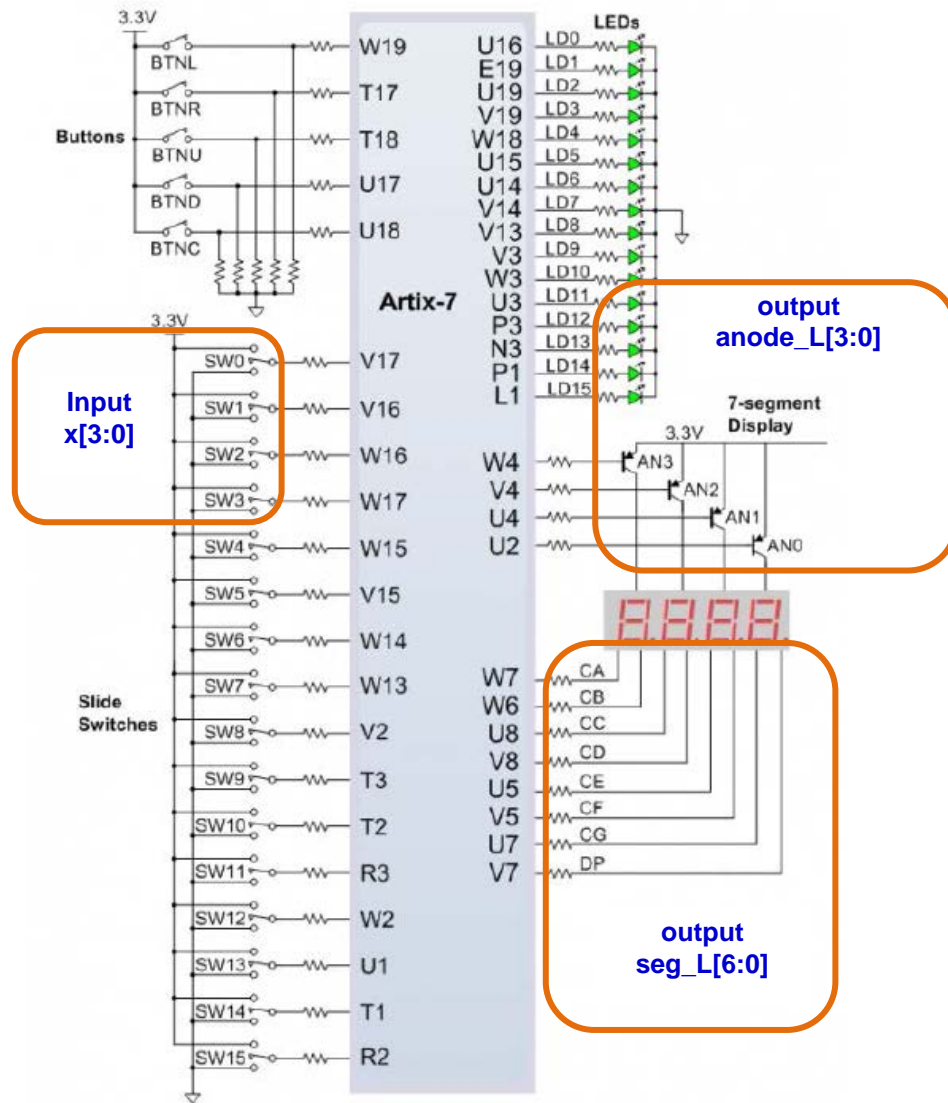
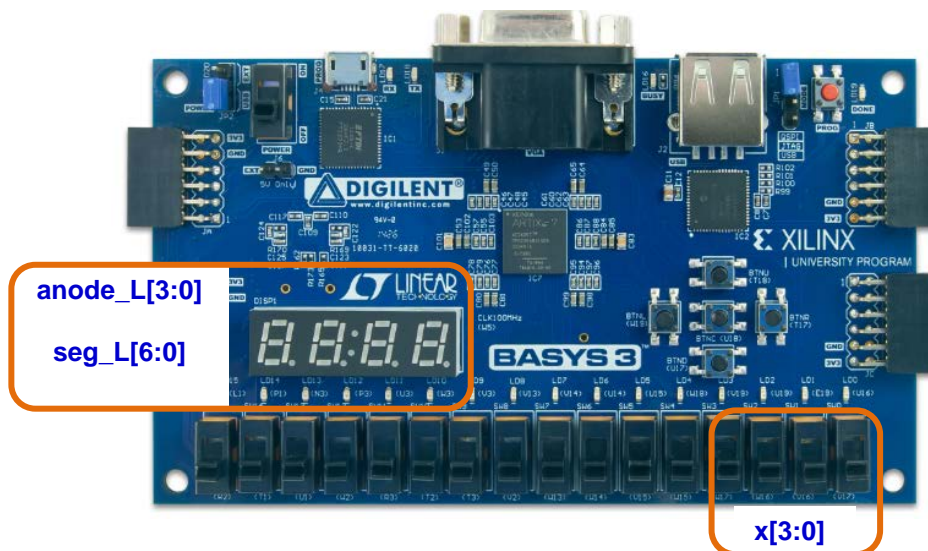

Figure 4: Basys3 basic input/output (I/O) schematic (source: Ref 8.4)
Figure 5: Basys3 board physical layout (source: Ref 8.4)
- 5.4.3 Figure 4 shows the I/O schematic diagram and Figure 5 shows the physical layout of the Basys3 board. The I/O mappings specified by *vsevenseg.xdc* are indicated in these figures.
- 5.5.1 In section 5.4, the two digits that are lighted up always display the same value. This is because the digits share the same value of CA-CG (mapped to seg_L in Figure 4). However, Figure 4 also shows that the two digits can be turned on or off separately by AN1 and AN0.